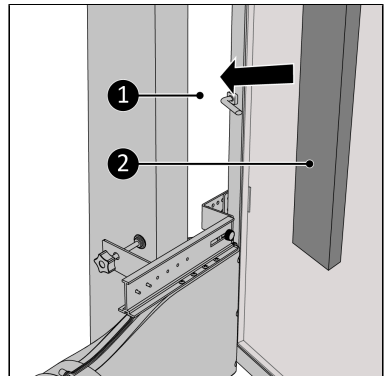

Figure 93.
16. Fill up the open spaces (Figure 93, pos. 1) with the delivered isolation foam (Figure 93, pos. 2), cut the foam if necessary*.